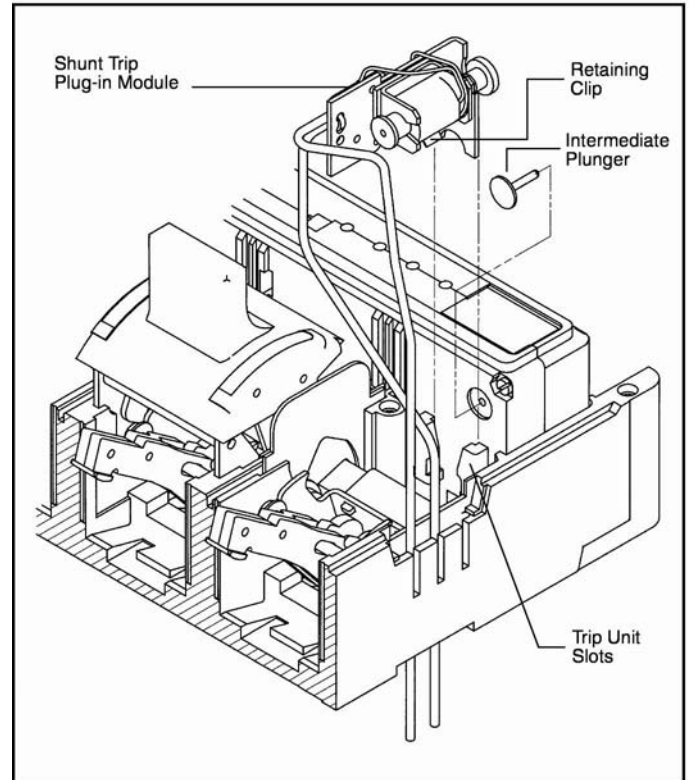

Fig. 2-3 Installing Intermediate Plunger and Shunt Trip
2.5. Insert shunt trip as described in the following steps (Fig. 2-3).
- b. Position intermediate plunger in trip unit (Fig. 2-3).